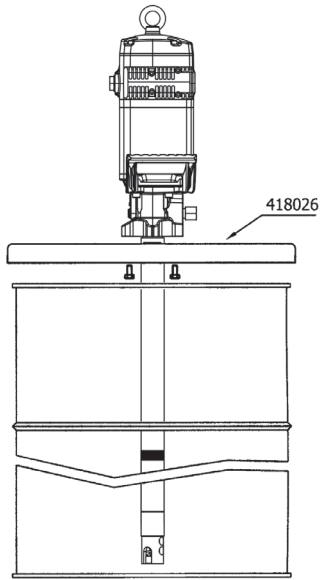

Fig. 2
- Mounting with reinforced cover 418026 for 408 psi (185 kg) drum and 418025 for 110 lb (50 kg) drum. Insert the pump through the cover and fasten it with the enclosed screws. Insert the pump through the bung opening and fasten the cover onto the drum firmly (see figure 2).